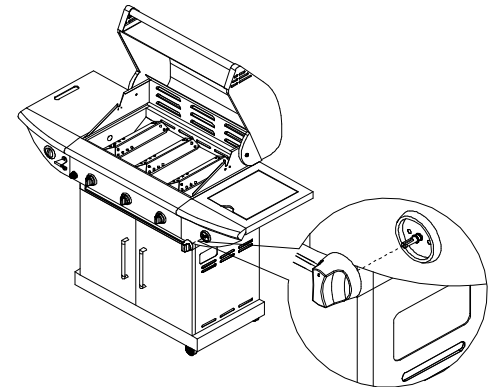

Figure 14
5. Plug ignition wire into igniter wire electrode on underside of burner(Fig.14).